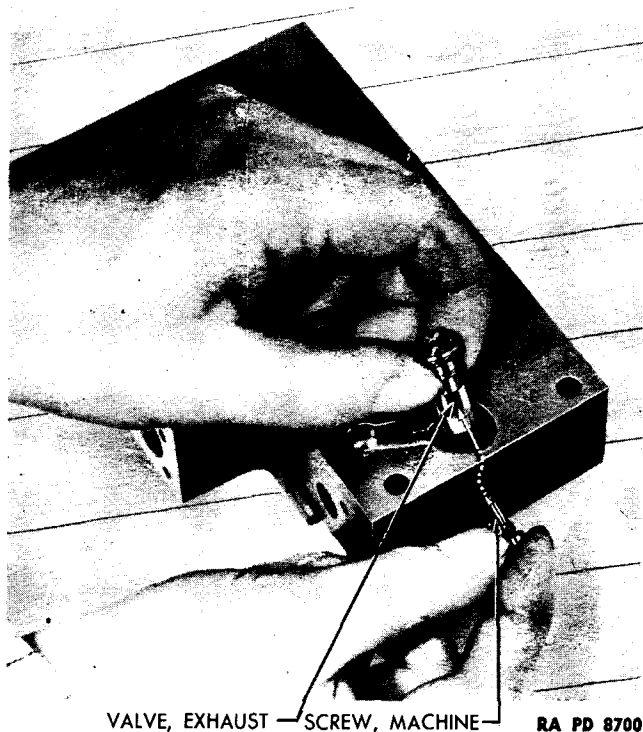

Figure 128 — Installing Exhaust Valve
Install low servo exhaust valve (JJ) and exhaust valve spring (HH) in valve body (fig. 128). Lock low servo exhaust valve in place by installing round-head machine screw in side of valve body. Make sure that screw enters slot in low servo exhaust valve and that valve operates freely after screw is installed.
(7) INSTALL MANUAL CONTROL VALVE.